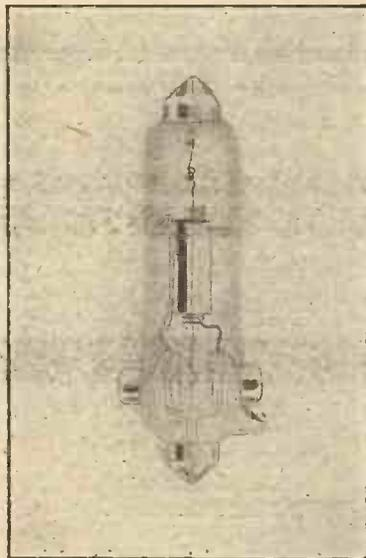

Fig. 5.—D.E.Q. Valve.
D.E.V. is primarily an amplifying valve, though on the multi-stage set it acts well as a detector. D.E.Q. (Fig. 5) is designed to rectify without grid-leak or condenser. It also makes a good high-